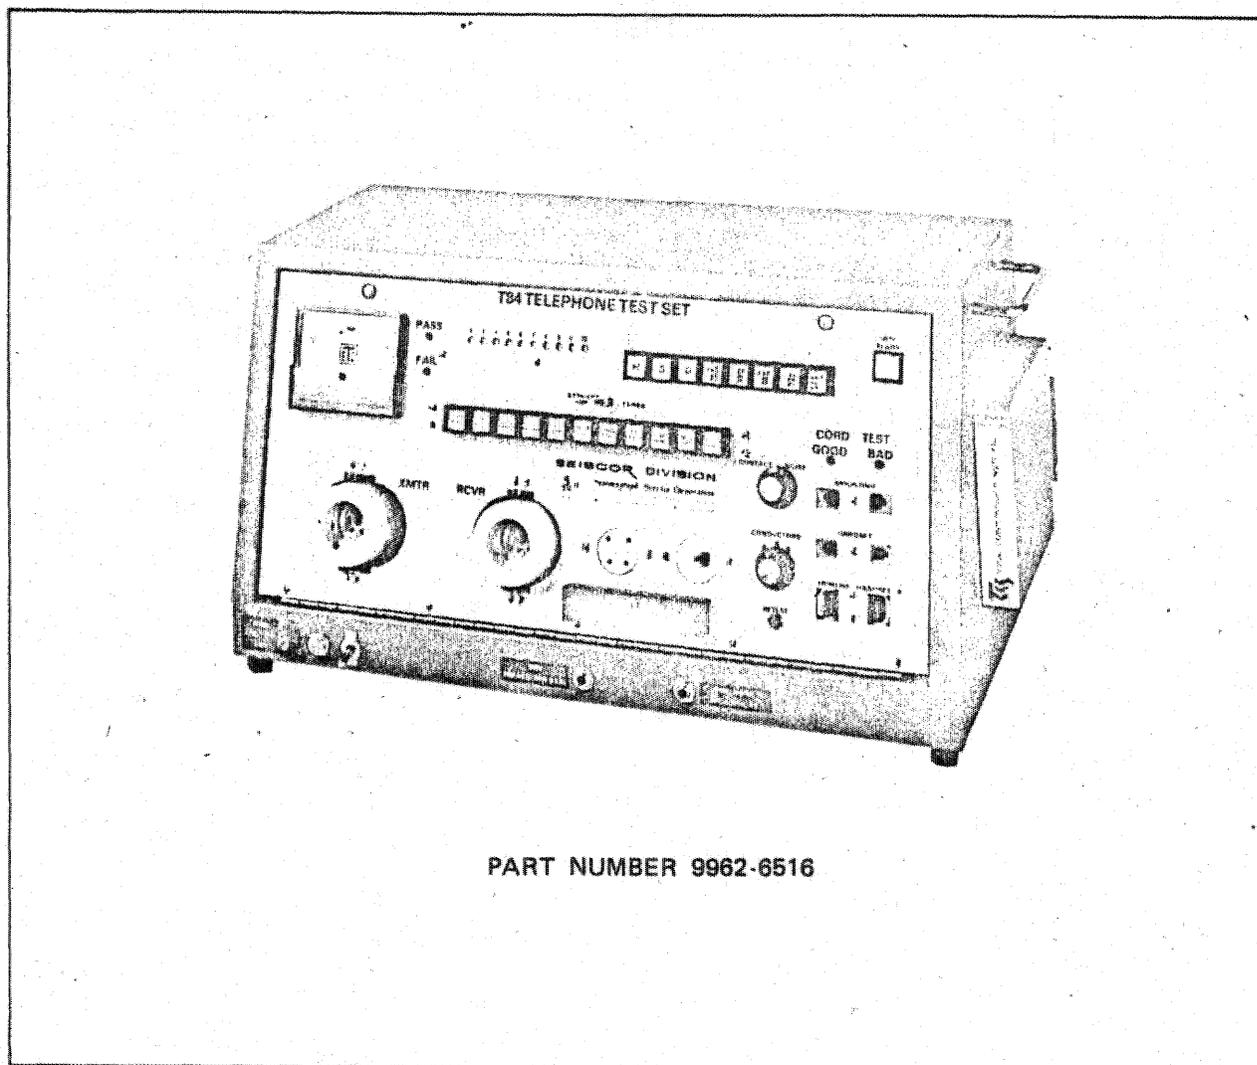

Fig. 2—Seiscor T-84R Telephone Test Set
3.03 The T-84R Test Set is shown in Fig. 2. This test set is identical to, and performs all of the tests of the T-84 Test Set, but has the additional capability of testing tuned ringer tele-phones. The T-84R Test Set provides a normal and a low ring test (bell tap does not apply to tuned ringers) for harmonic, synchronomic, and decimonic ringers. NOTE: This is the only difference between the T-84 and the T-84R Test Sets.